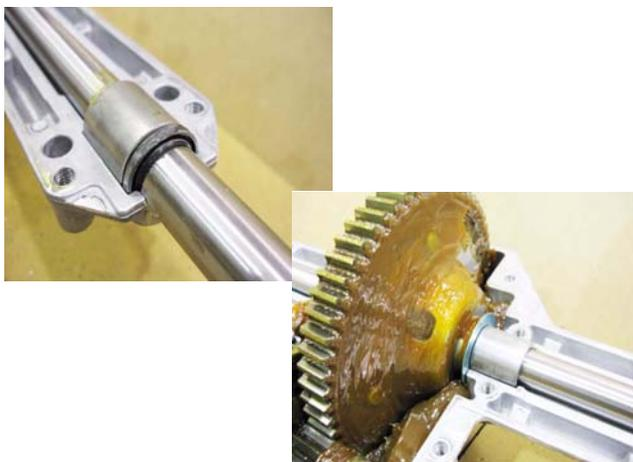

Figure 6.107
- 20f. Carefully place the assembly into the housing for a dry fit. See Figure 6.107.